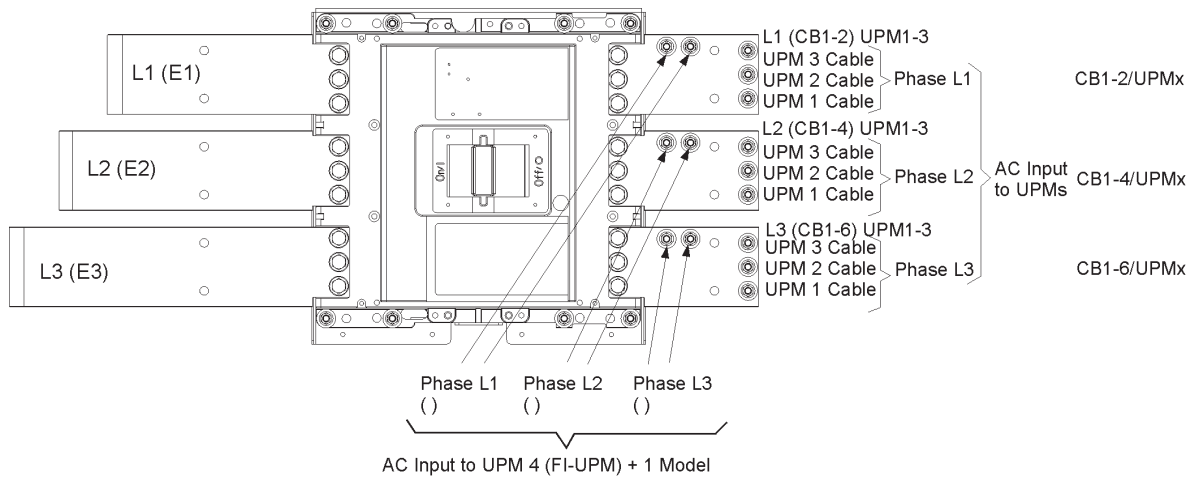
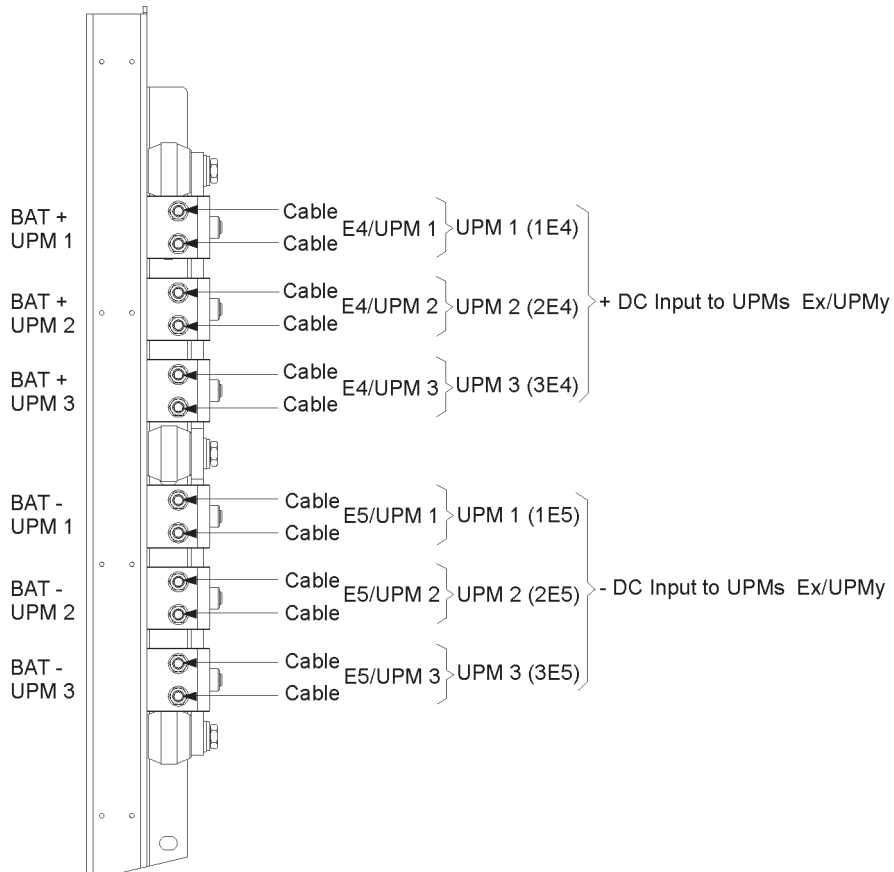
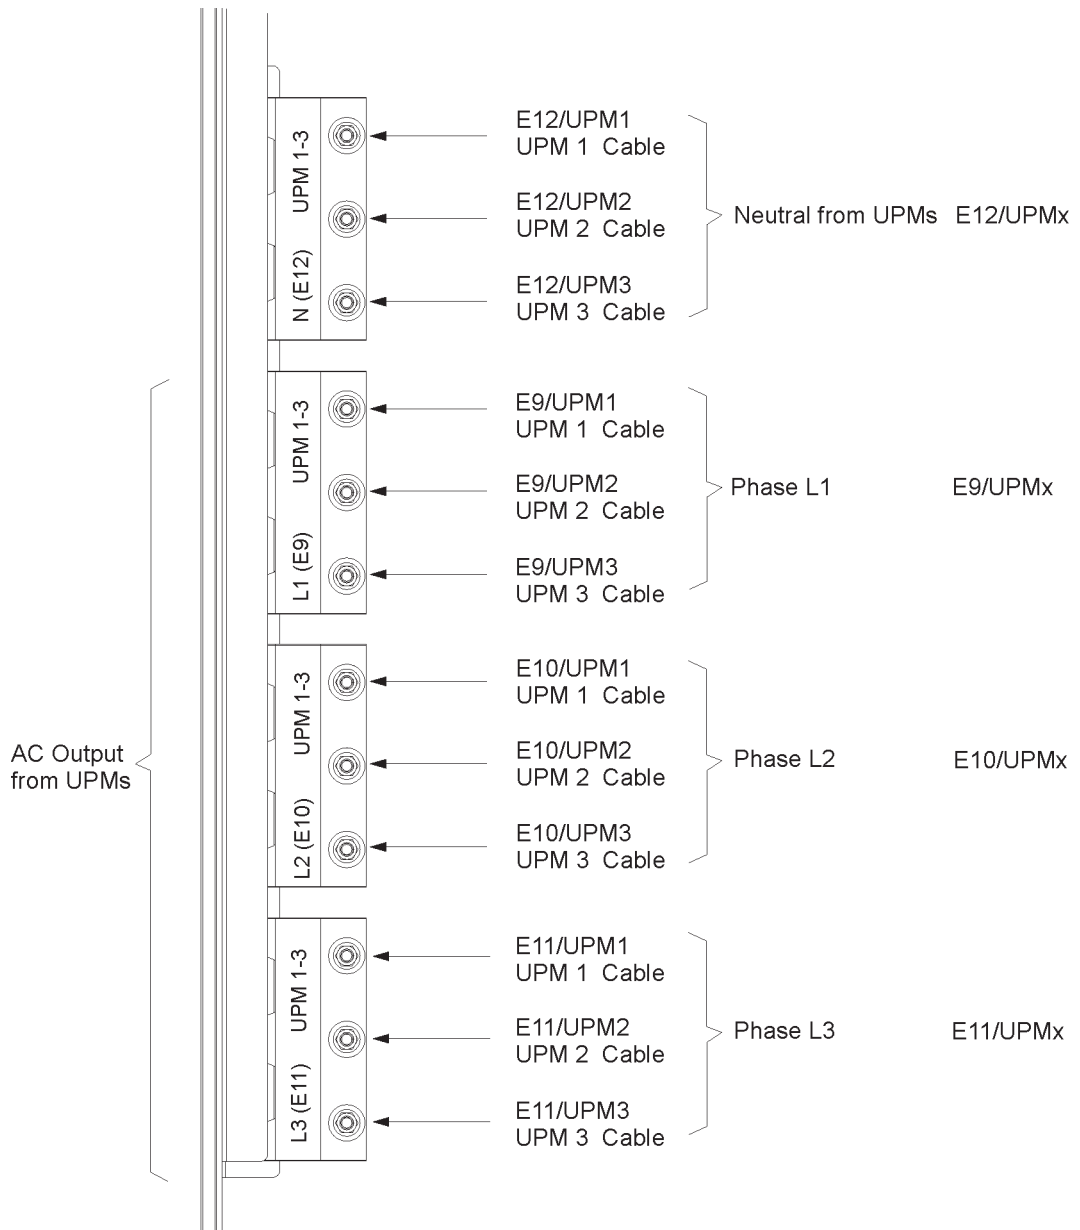

Figure 4-7. UPS ISBM section input power terminal detail
Figure 4-8. UPS ISBM section battery input power terminal detail
Figure 4-9. UPS ISBM section interconnection power terminal detail
7. Using hardware from the intercabinet wiring terminal hardware kit, connect phase L1, L2, and L3 cable lug connections to the AC input to UPMs terminals. Follow the callout details in Figure 4-7 on page 42 to connect the correct cable lug to the proper terminals.
9. Using hardware from the intercabinet wiring terminal hardware kit, connect the positive and negative cable lug connections to the DC input to ISBM terminals. Follow the callout details in Figure 4-8 on page 42 to connect the correct cable lug to the proper terminals.
11. Using hardware from the intercabinet wiring terminal hardware kit, connect phase L1, L2 and L3 and neutral cable lug connections to the AC output from UPMs terminals. Follow the callout details in Figure 4-9 to connect the correct cable lug to the proper terminals. See Section 3.2.2 on page 19 for wiring and termination requirements.
12. On 675-825 kVA models install remaining hardware (three washers, conical washers, and nuts) onto the AC input to UPMs terminals designated for the systems with a Field Upgrade UPM and secure the hardware (see Figure 4-7). This hardware is for future use if a field-installed UPM (FI-UPM) is installed to upgrade the UPS to a system with a Field Upgrade UPM.
For details of the power terminals shown in the figure above see Figure 4-7, Figure 4-8 and Figure 4-9.